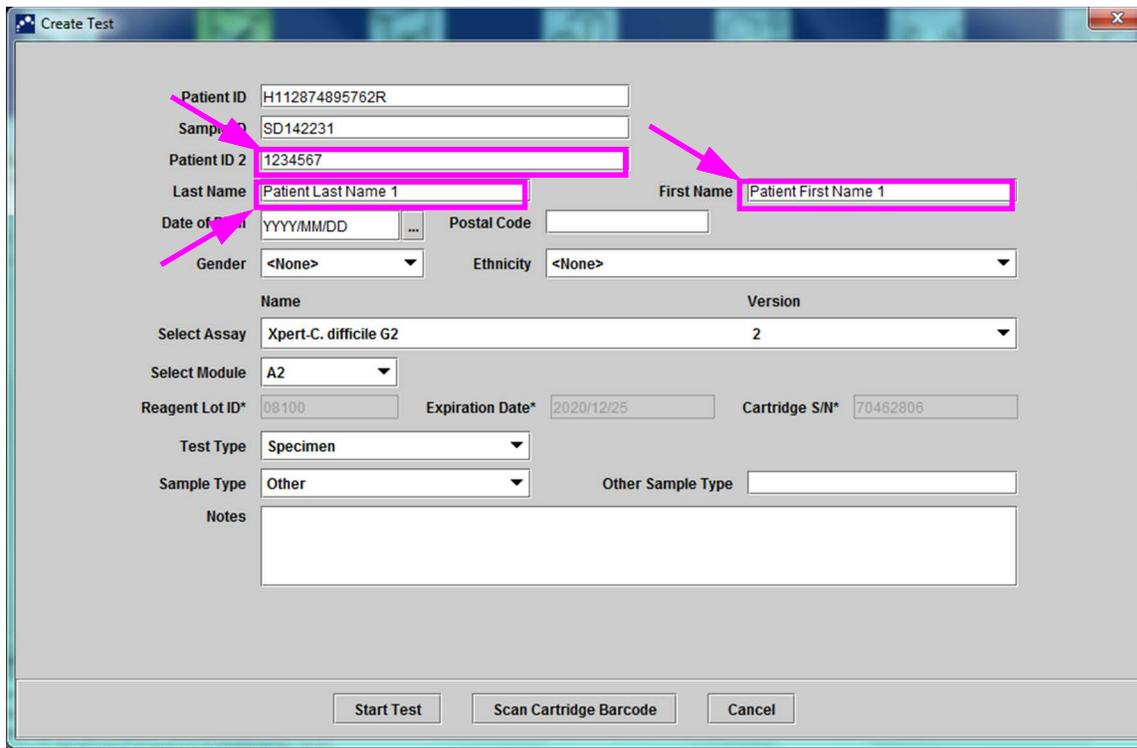

Figure 5-23. Create Test Dialog Box with the Patient ID and Sample ID Fields Shown
4. Scan the cartridge barcode using the supplied barcode scanner. See Section 5.5. The Create Test dialog box appears as shown in Figure 5-23. Note that the software automatically fills the required information into the Create Test window.
6. (Optional) If **Patient Name** is enabled, place the cursor in the **Last Name** field and enter the patient's last name then place the cursor in the **First Name** field and enter the patient's first name (see Figure 5-23).